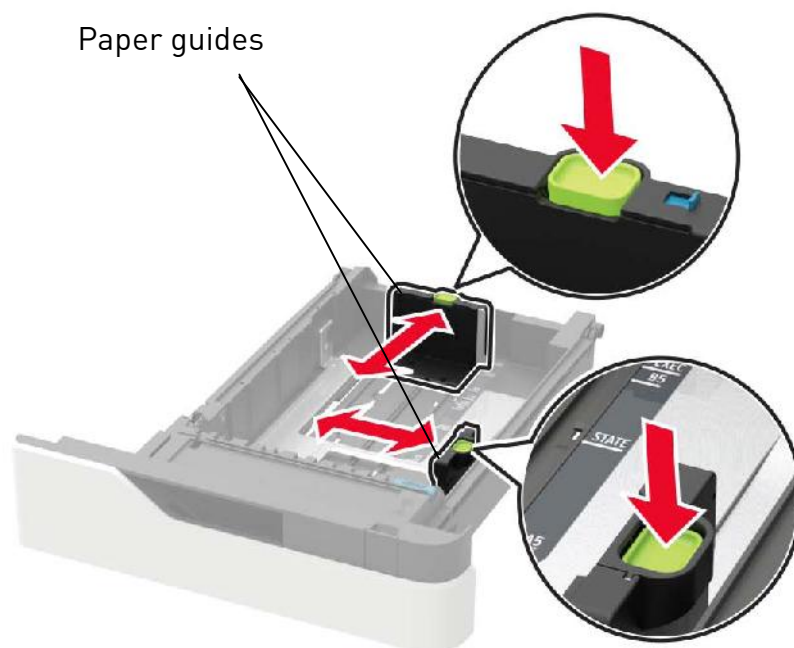

Fig. 4.1.1.c Adjusting the paper guides to the new paper size and above that
5. Straighten out the new paper (compare figure 4.1.1.d).